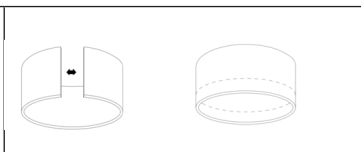

Figure 8
1. Fix the air pipe connection foam (Fig. 8).